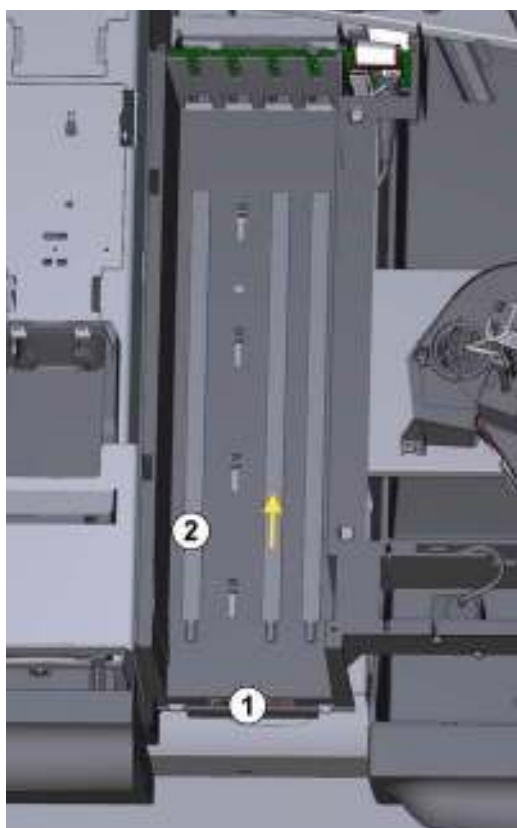

Figure 21–10: Sample Module, top view
1. Arch the sample bay guide in correspondence of the blocking pin (see gray little hole between the four sample bay insertion points of the second line showed in Figure 21–10).